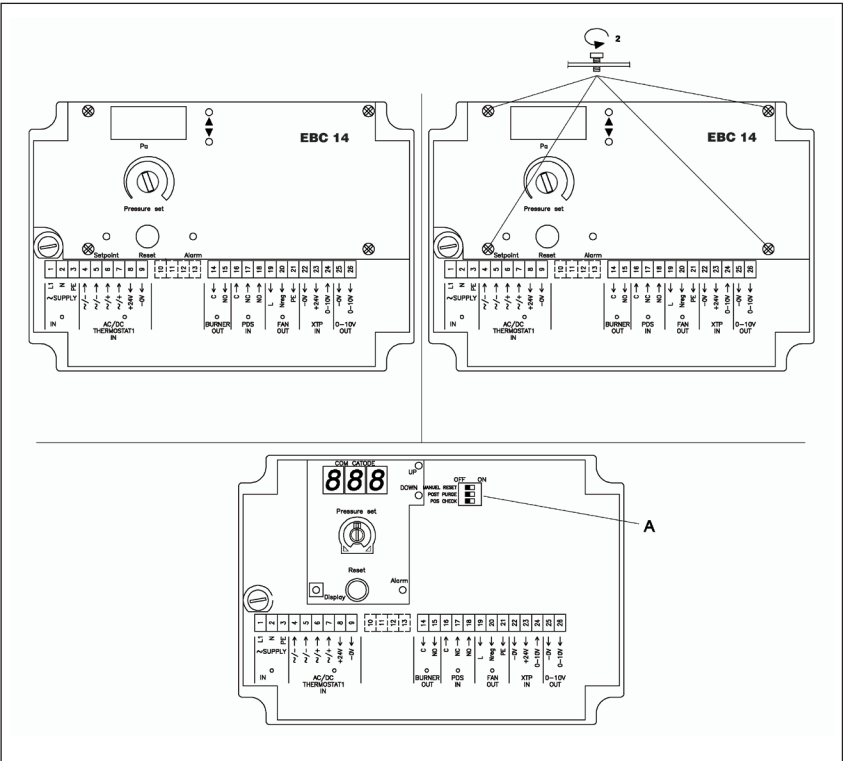

Fig. 11
- If the factory setting must be changed, the black cover plate must be removed to gain access to the dipswitches (see Fig 11-A):
1. Remove the (4) flathead screws and lift the top plate off the board.